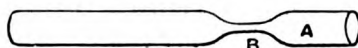
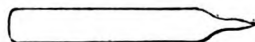

FIG. 1
FIG. 2
**Reading Gas Meters.**—Gas meter manufacturers do not all adopt the same method of arranging dials, but usually in 200-light gas meters there are five dials, marked tens, hundreds, thousands, tens of thousands, and hundreds of thousands respectively. This means, that in the case of the first dial (tens) the movement of the pointer from 0 to 1 indicates the passage of 10 cub. ft. of gas, and the complete revolution of the pointer 100 cub. ft. Similarly in the case of the second dial, the reading 0 to 1, or 1 to 2, indicates the passage of 100 cub. ft., and the whole circle of the dial 1000 cub. ft. of gas. Usually the dials are so arranged that the pointers do not travel in the same direction, but alternately from right to left and from left to right, the numbering on the dials being arranged accordingly. In taking the indices of such meters the usual practice is to neglect the indications below 100, but in the accompanying illustration the method of reading the whole of the dials is given. In reading an index it is usual to commence with the lowest figure. Therefore, starting with the dial on the extreme right, it will be seen that the pointer lies between the figures 3 and 4; the figure 3 is therefore recorded. Working in the direction right to left, in the next dial the pointer is between the figures 1 and 2; the figure 1 is therefore put down. In the next dial the pointer is between the figures 8 and 9, and the figure 8 is put down. In the next dial the pointer is between the figures 6 and 7, and the figure 6 is put down; while in the case of the last dial on the extreme left, the pointer
blowpipe flame heat the tube about 1 in. above the mark, rotate it, and when softened, draw out to a long, fine tube (see Fig. 1). Allow to cool, then run a little ether into the funnel A (Fig. 1). Warm the tube over a steam bath, then cool it; the ether will thus be sucked in; this may be done a few times until the ether reaches the 2 oz. mark. Now in a small flame hold the tube at B, draw it out, and it will seal off as at Fig. 2.